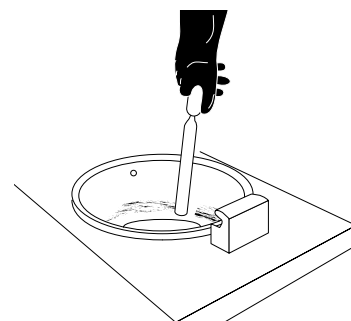

FIGURE 12
9. **Cleaning After Each Round** - scrape crust line from cookpot with spatula (not included with fryer) (Figure 12). Scrub heater coils with white Teflon™ brush (supplied).